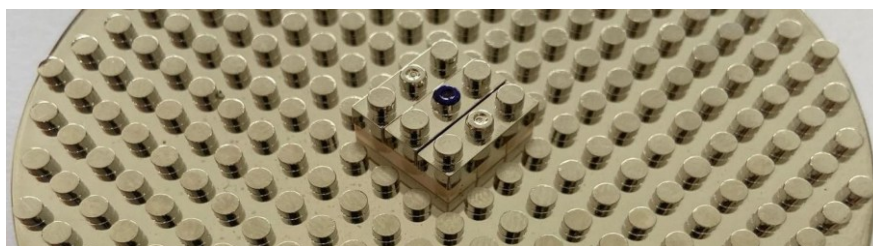

Figure 18 Connection of the two metal cells in both sides of the feed metal cell
7. Connect the 1X3 cells at each side of the feed cell. Connect other 1X3 metal cells to build the antenna as shown in Figure 18.